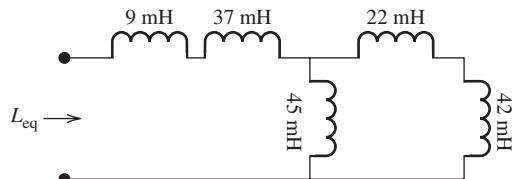

FIGURE P4.44 Circuit for Problem 4.44.
- 4.44 (B)** For the inductor network in Figure P4.44, what is the equivalent inductance, L_{eq} ?